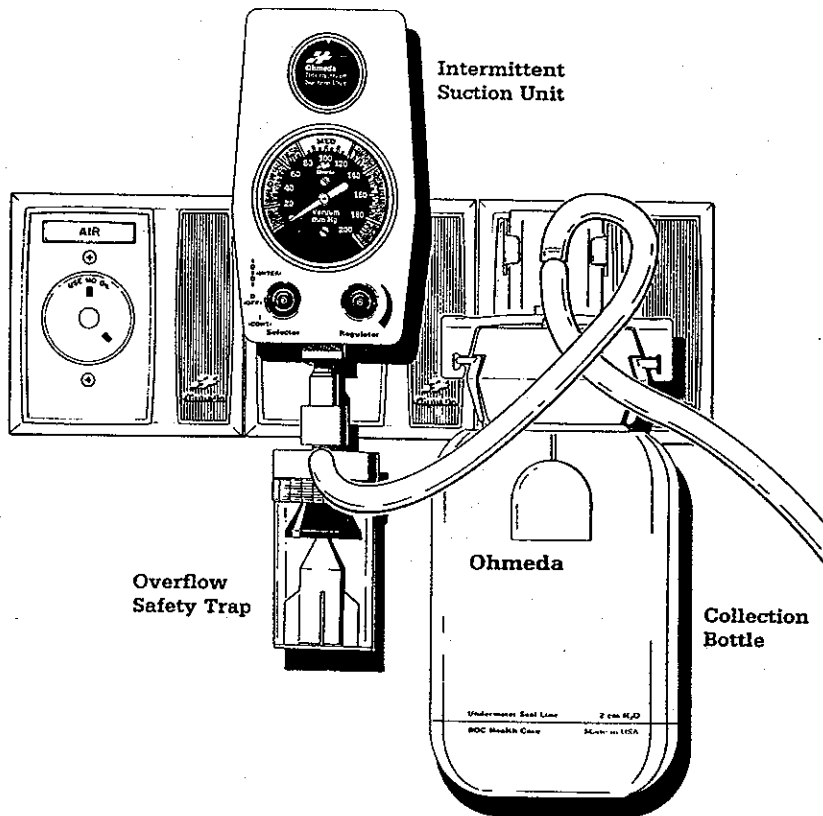

Figure 2
1. Connect the overflow safety trap to the bottom of the regulator as shown in Figure 2.